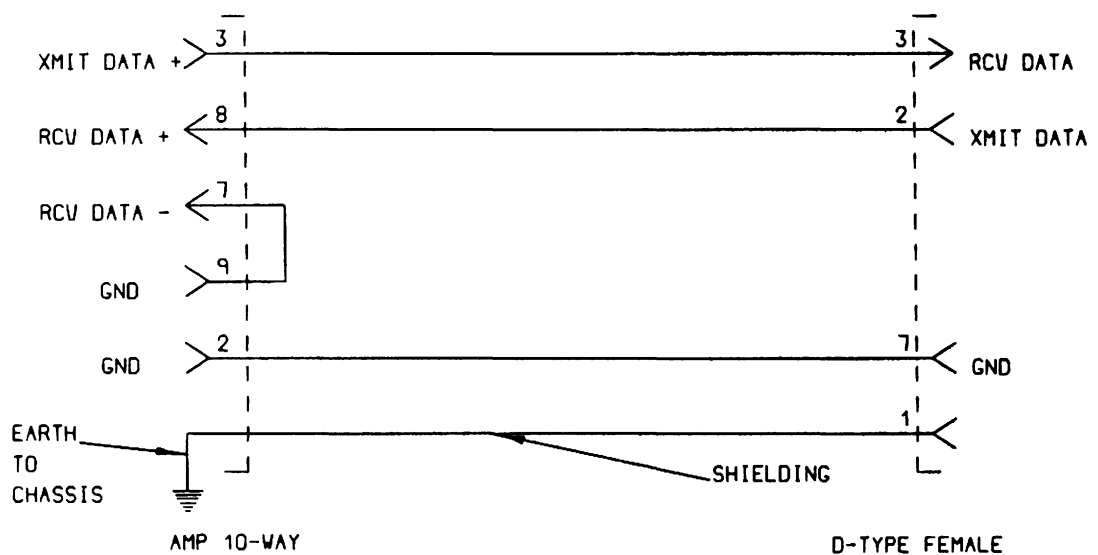

Fig. 6.6 Null Modem Cable.
- BC20N-05** A 5 foot RS-232C null modem cable used to interface to a local terminal (e.g. VT220). One end of the cable consists of an AMP 2x5 female connector and the other of RS-232C D-type female connector. Refer to figure 6.6.